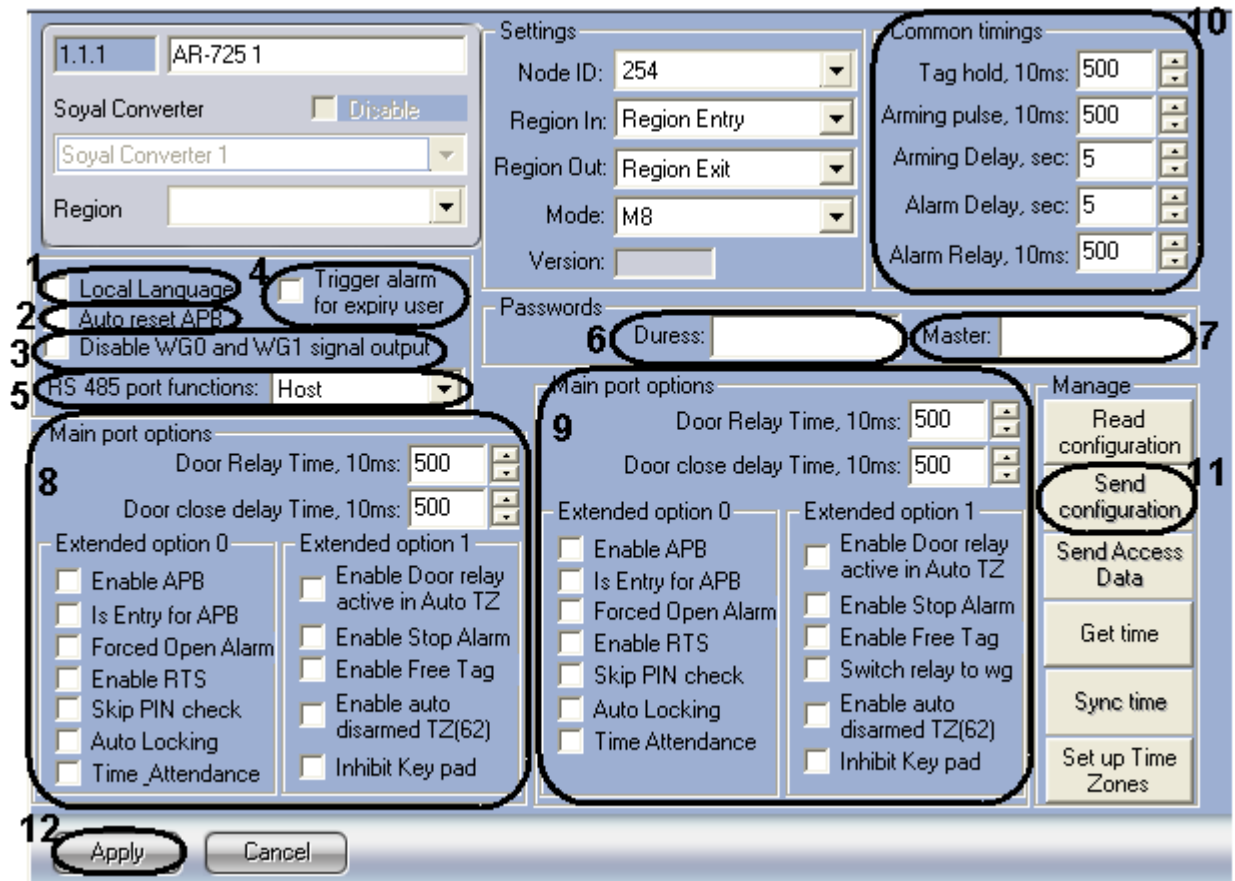

Figure 2.6—4 Manual configuration of AR-725 controller
- Go to the **AR-725** object's settings panel (Figure 2.6—4).
- Set the **Local language** checkbox to display information in the local language (Figure 2.6—4, 1).
- Set the **Auto reset APB** checkbox to enable the auto reset of anti-passback data (Figure 2.6—4, 2).
- Set the **Disable WG0 and WG1 signal output** checkbox to disable WG0 and WG1 outputs (Figure 2.6—4, 3).
- Set the **Trigger alarm for expiry user** checkbox to enable alarm for expiry user (Figure 2.6—4, 4).